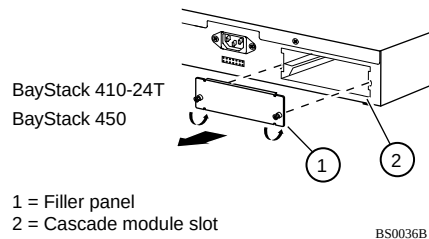

**Figure 8. BayStack 450/410-24T Filler Panel**
2. **Remove the filler panel from the Cascade Module slot (Figures 8 and 9).**
- **BayStack 450 and 410-24T** -- Use a Phillips-head screwdriver to loosen the two thumbscrews and remove the filler panel (Figure 8).